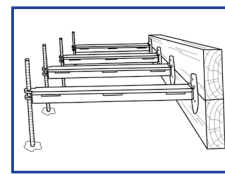
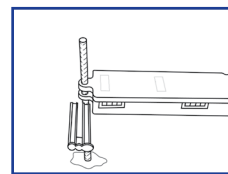

Fig 4
Fig 5
Step 3: Insert adjustable stake through the hole in end of first Dowelmaster sleeve and hammer it into the ground making sure it is secure (Fig 4). Break wedge off the sleeve. Accurately level the sleeve and hold in place by inserting the wedge between the stake and the back end of sleeve (Fig 5). Repeat at last Dowelmaster sleeve along formboard.